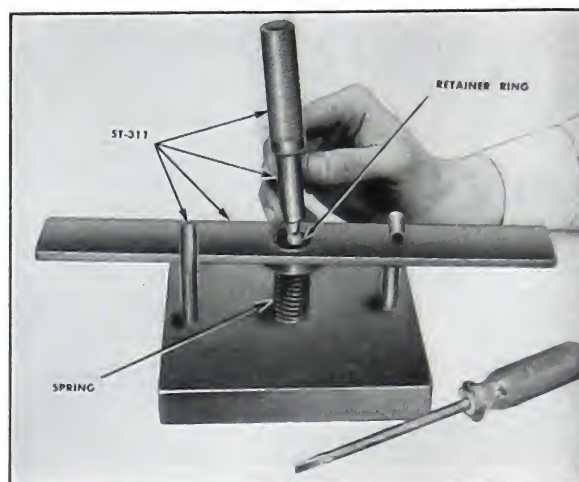

Fig. 5-208. Removing spring retainer
MAXIMUM SPEED SPRING: ST-311 fixture is handy to disassemble the maximum speed spring. Fig. 5-208. This spring assembly is used in maximum-speed mechanical governors only.
4. Use ST-311 fixture and compress the spring to insert the spring retainer. Fig. 5-208.